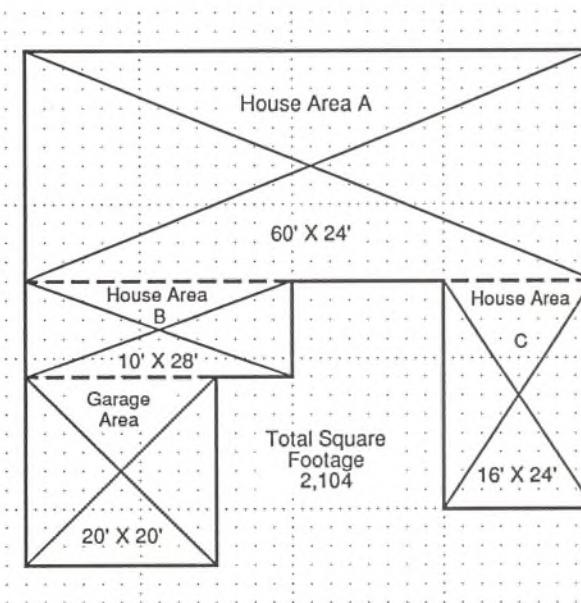

Fig. 19.1 Figuring square footage.
2. If you are figuring the square footage in a house that has angles and offsets such as the plan in Fig. 19.1, mark the areas off into squares or rectangles and multiply the width times the length of each area. When you have the square footage for each area, add them all together.